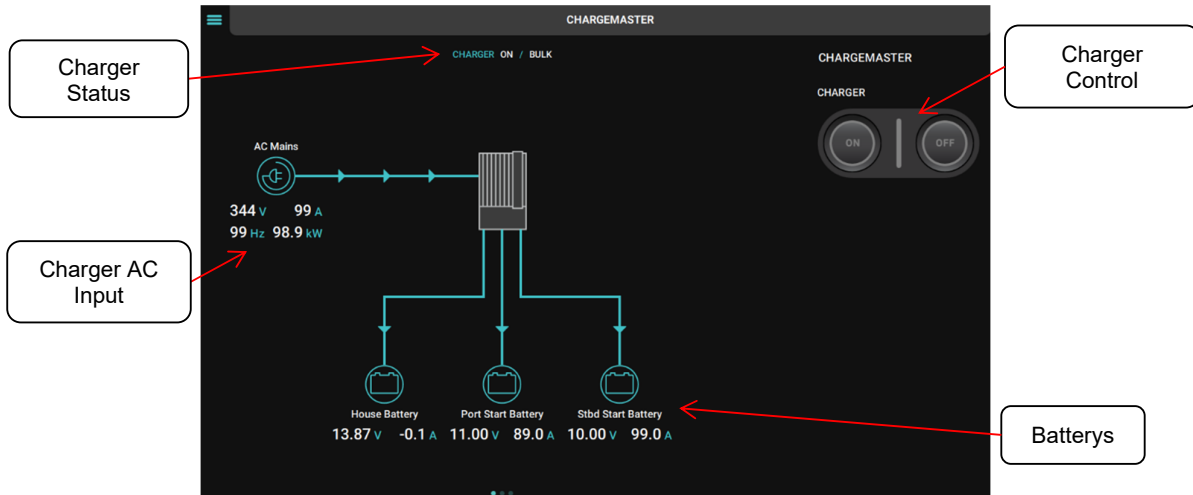
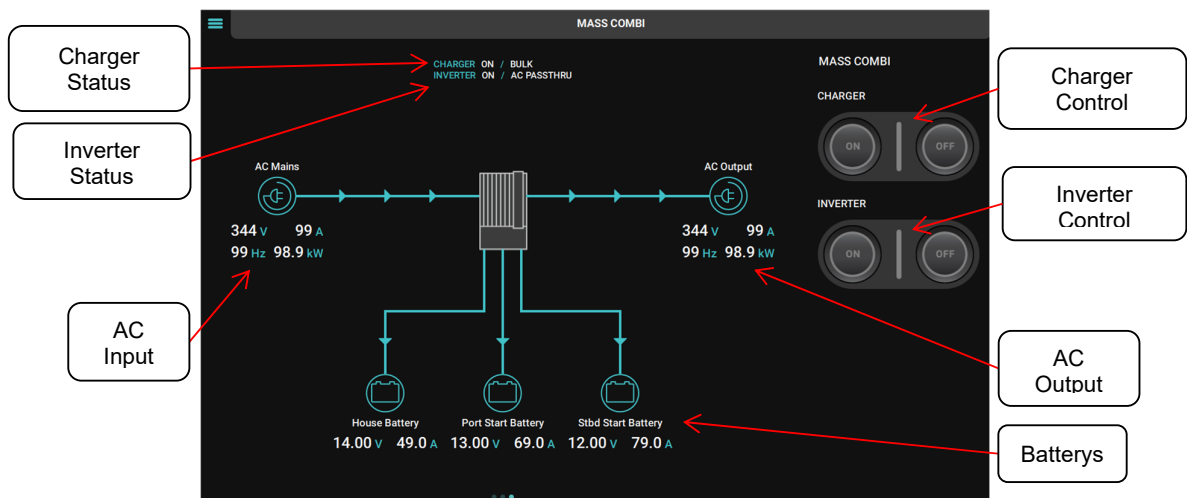

Figure 9 ChargeMaster Example
Figure 10 Mass Combi Example
2. Select an available metering channel for the Charger/Inverter Status from the MBI (MasterBus Bridge Interface). This monitoring field will repeat from MasterBus the state of the Inverter and/or Charger e.g.Float/Absorption/Bulk. (See Figure 9 and Figure 10 for examples.) The MBI has a total of 16 metering channels.